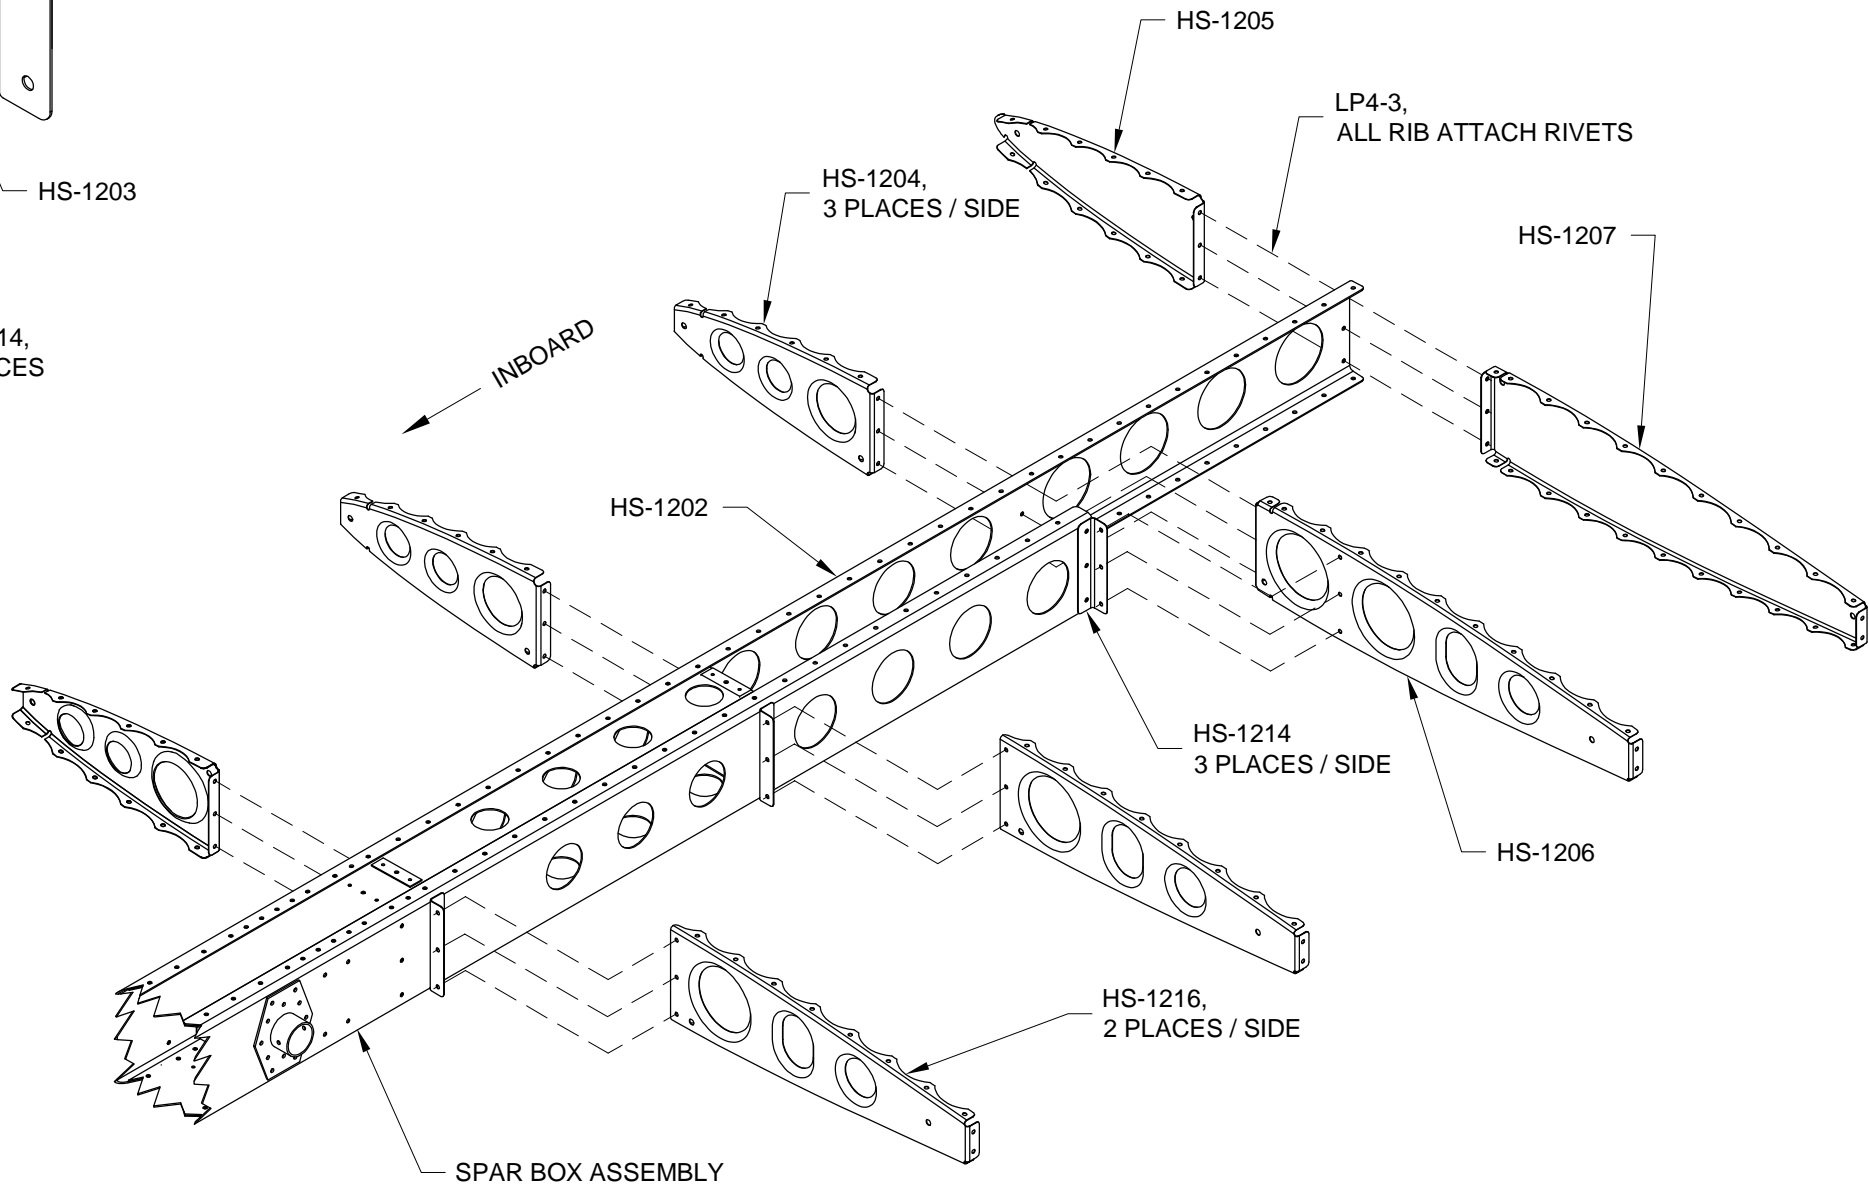

FIGURE 3:
Step 4: Rivet the HS-1204 Fwd Inbd Ribs to the HS-1202 Fwd Spar per call-out. Include the forward flange of the HS-1206 Inbd Main Rib when installing the outer most fwd inbd rib. Orient all the rib flanges as shown in Figure 3.
Step 5: Rivet the HS-1205 Fwd Outbd Rib to the HS-1207 Outbd Main Rib through the HS-1202 Fwd Spar. Orient the flanges of the fwd outbd rib and the outbd main rib so that they point inboard as shown in Figure 3.